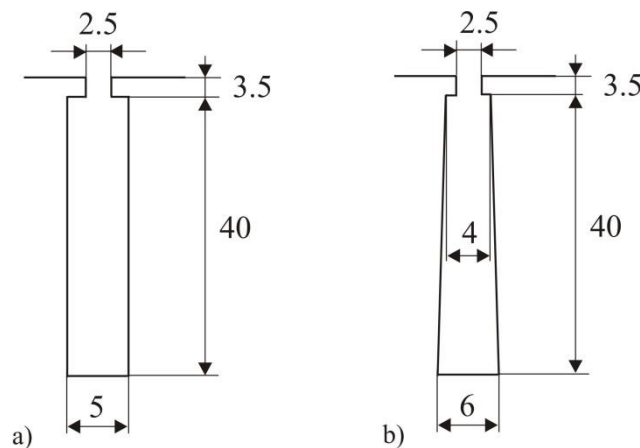

Figure 14: Dimensions of a) deep-bar and b) wedge-bar rotor slots in millimetres:
A rotor of a 500 kW, 6 kV, Y, 59 A, 1480/min, 94%, 50 Hz, 4-pole induction motor is equipped either with the copper deep-bar of Fig 14 a). The equivalent iron length is $l_e = 0.392$ m, the total axial length is $L = 460$ mm, the number of turns per phase is $N_s = 200$, the stator winding factor is $k_{ws1} = 0.91$ and the number of rotor slots is $Q_r = 50$.
- 4) The deep-bar of Fig. 14-a) is replaced with the wedge-bar of Fig 14-b). How big is the wedge-bar resistance at stand-still?